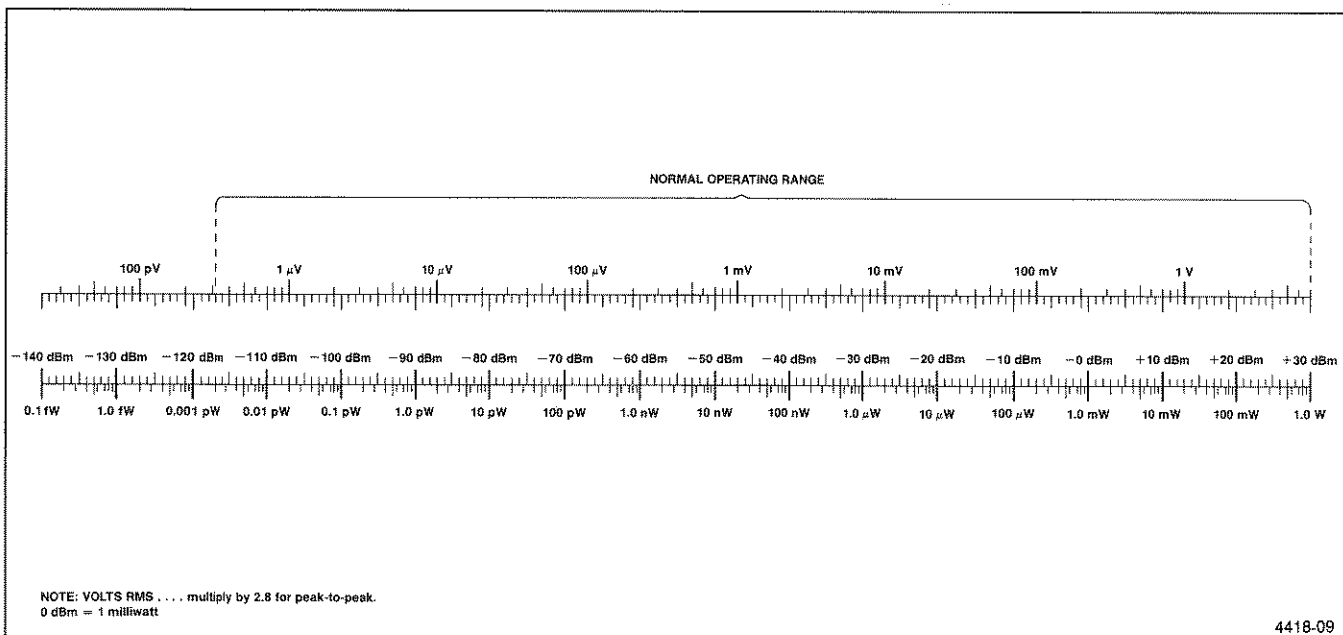

Figure 6-1. Volts-dBm-Watts conversion chart for 50  $\Omega$  impedance.
**Amplitude Conversion.** A conversion chart, shown in Figure 6-1, can be used to convert input signal levels of voltage or power to dBm.